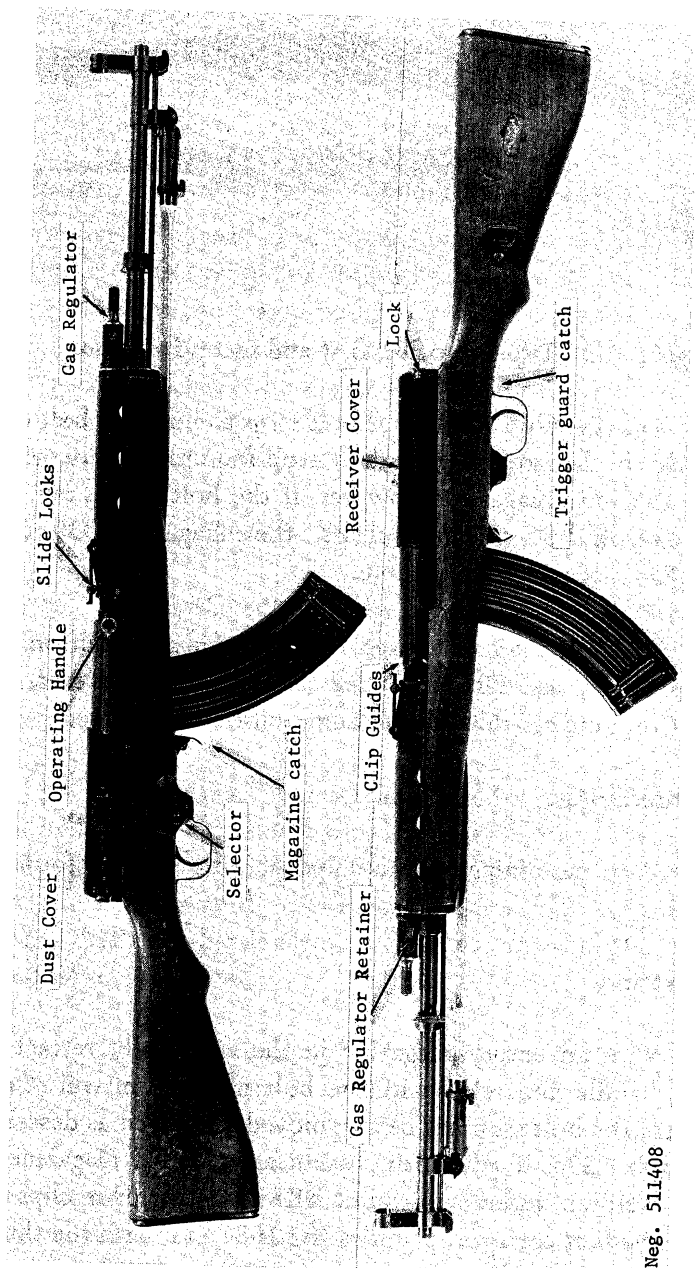
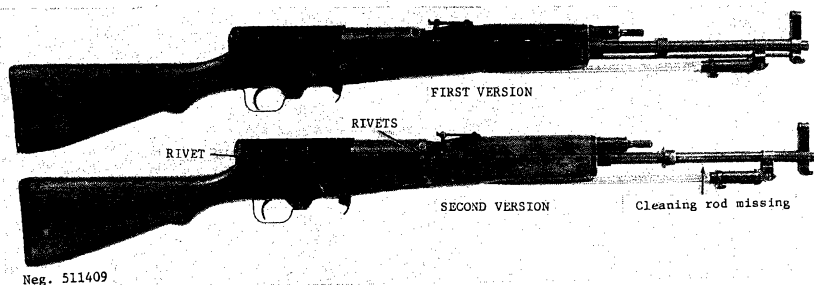

Figure 108. PRC Type 68 rifle (first version).
Figure 109. Type 68 rifles, first and second versions.
b. Two versions of this rifle exist. The earlier version (fig 108) has a receiver machined out of steel; the later model has a pressed steel receiver and can be identified by the large rivets at each side of the receiver (fig 109). There also are other minor differences between the two weapons.
a. With an empty magazine in the rifle, fully retract the operating handle and release it (the bolt mechanism will remain open unless the bolt stop has been removed or altered as described in paragraph 123c; if this is the case use preloaded magazines as described below). Insert ten-round SKS type stripper clips (fig 101) into the bolt carrier clip guides (fig 108) and, with the thumb
close to the clip, press the cartridges off the clip, into the magazine. Remove the clip, replace it with a fresh one, and press five additional cartridges into the magazine. Then remove the clip with the remaining cartridges. If stripper clips are not available, place individual cartridges on the magazine follower and press them down until they roll under one of the magazine lips. Alternatively, magazines can be loaded, out of the rifle, by placing cartridges on the magazine follower and pressing them down until they roll under the magazine lip. Load the magazine into the rifle by holding it canted forward and engage the lug on its front top with its recess inside the magazine well, then swing the magazine rearward until the magazine catch (fig 108) snaps into place. Pull the operating handle fully rearward and release it.
b. Unless the rifle is to be fired immediately, put it on safe by rotating the selector (fig 108) to the rear or "0" position. This locks only the trigger; the breech mechanism can be opened if necessary. Slide the dust cover (fig 108) forward.
c. Set the rear sight to the desired range by depressing the slide locks (fig 108) and moving the sight bar along the leaf until the front edge of the bar is aligned with the line below the number that corresponds with the range in hundreds of meters. The symbol "III" is a battle sight setting used in combat for shooting at ranges to 300 meters.
d. The front sight is adjustable for zero; refer to paragraph 95b(2) for the procedure to be followed.
e. To fire, rotate the selector (fig 108) forward off safe; the vertical or middle position (indicated by "1" provides semiautomatic fire and the forward position (indicated by "2"
f. Remove the magazine by pressing the magazine catch (fig 108) toward the magazine and then rotating the magazine forward until it comes out.
g. If the rifle is sluggish from cold or fouling, the gas regulator (fig 108) should be adjusted to admit additional gas to operate the mechanism. Press the gas regulator retainer (fig 110) in toward the gas cylinder until it disengages from the handguard. Rotate the retainer down until it can be pulled out of the gas cylinder.
i. To unload or clear the Type 68 rifle, set the selector to its rear ("0") position, remove the magazine (f, above) and pull the operating handle fully rearward. Inspect to insure that no cartridge is present, then release the operating handle. Rotate the selector off safe, press the trigger and reset the selector back to safe. Insert the magazine. Slide the dust cover (fig 108) forward.
a. Clear the weapon (para 125i) but do not insert the magazine. Press in the lock (fig 108) at the left rear of the receiver cover and pull the cover rearward, off the receiver.
c. If the rifle is a later model with the stamped receiver, press in the lock (fig 108) and pull the driving spring and its guide forward until they clear their seat. Ease the spring upward, then remove it.
d. Pull the operating handle (fig 108) to the rear; at the same time, press down on it. When the bolt carrier is about one inch from the rear end of the receiver it will disengage from the receiver. Lift the bolt carrier out of the receiver.
g. Invert the rifle and rotate the trigger guard catch (fig 108) located at the rear of the trigger guard until the trigger group disengages. Pull the trigger guard upward until it comes free. If desired, remove the stock by first moving the bayonet from its stowed position, then pull the rear of the stock away from the receiver.
m. Install the receiver cover by placing the tab on the left side of the cover immediately behind its slot in the receiver, insuring that the cover is over the lock (fig 108). Press the cover down so that the tab on its right side is aligned with its slot in the receiver. Press the receiver cover forward until the lock snaps into its hole in the receiver cover. Install the magazine.